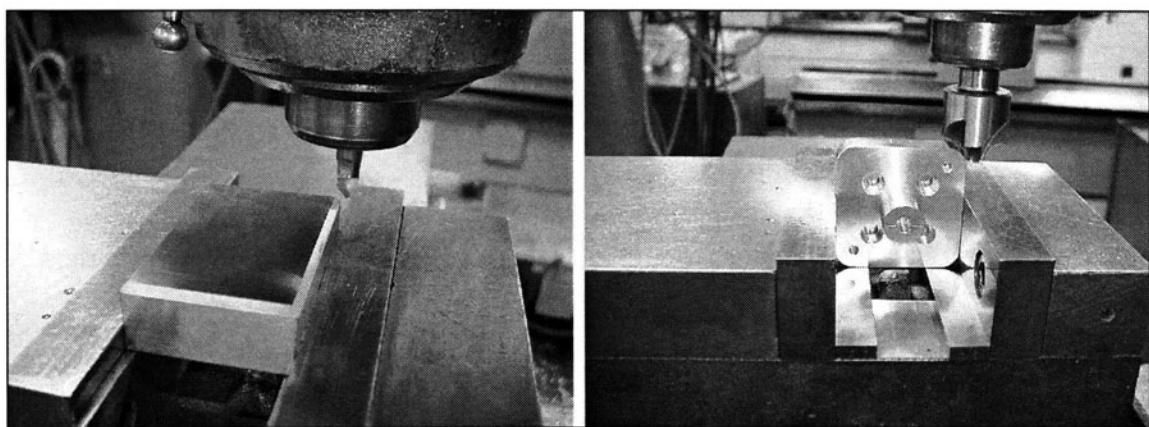

FIGURE 3-18 The easiest way to dress edges in a conventional milling machine is to rotate the part in the vise.
23. Rotate parts in a vise to dress edges. (See Fig. 3-18)